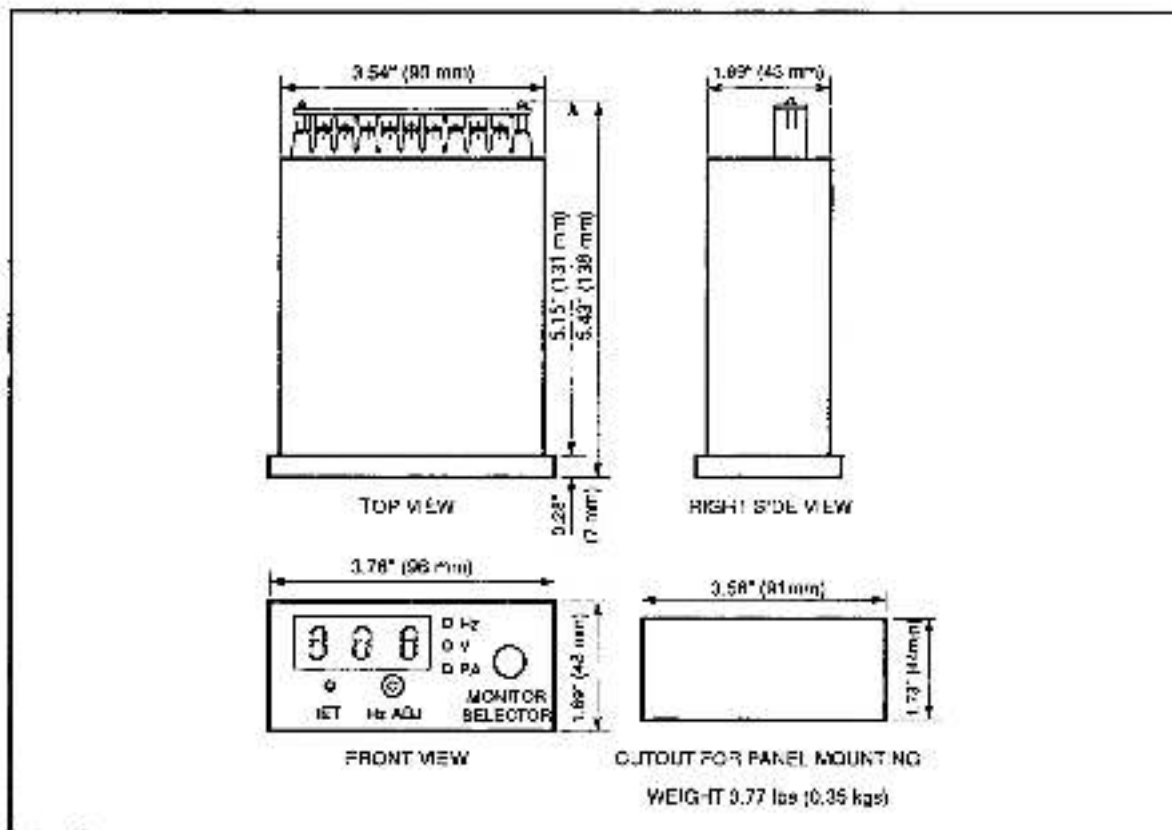

Figure 1. Mounting data for Remote Digital Meter Kit.
4. Make a cutout for panel mounting in the desired location. (See Figure 1 for the dimensions).